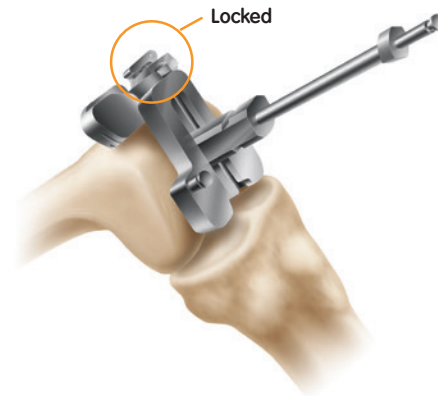

Figure 6
- 2 Slide the intramedullary rod of the assembly into the femoral canal until the alignment guide contacts the distal femur (Figure 6).